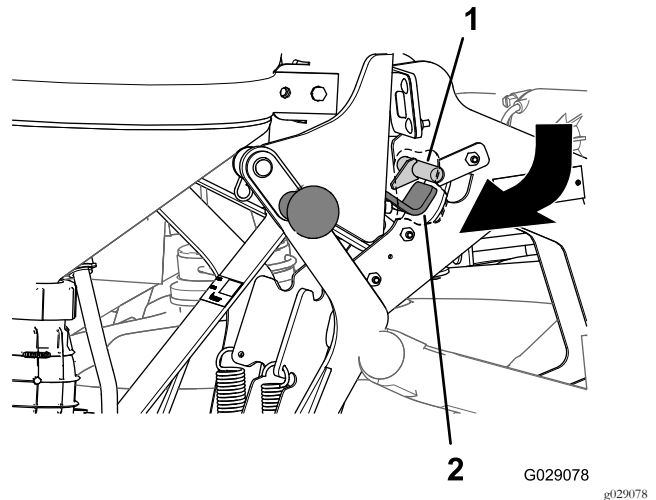

Figure 38
3. Pull the educator handle outward and down until the hook of the latch at the inboard side of the back plate is clear of the latch rod of the main support-frame assembly (Figure 38).
3. Push in the handles at the top of the cradle until the hook portion of the latch is aligned behind the latch rod of the main-support frame (Figure 38).